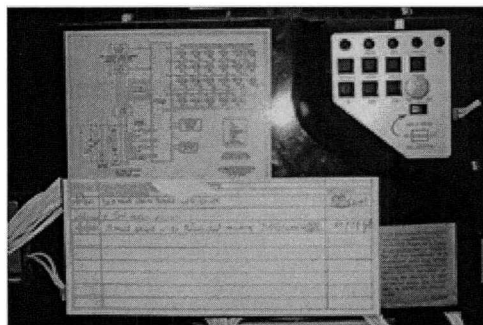

Figure 2
2. Remove cover, pictured in Figure 2, encasing the Vending Machine control board by removing the four retaining screws. You will no longer need this cover.